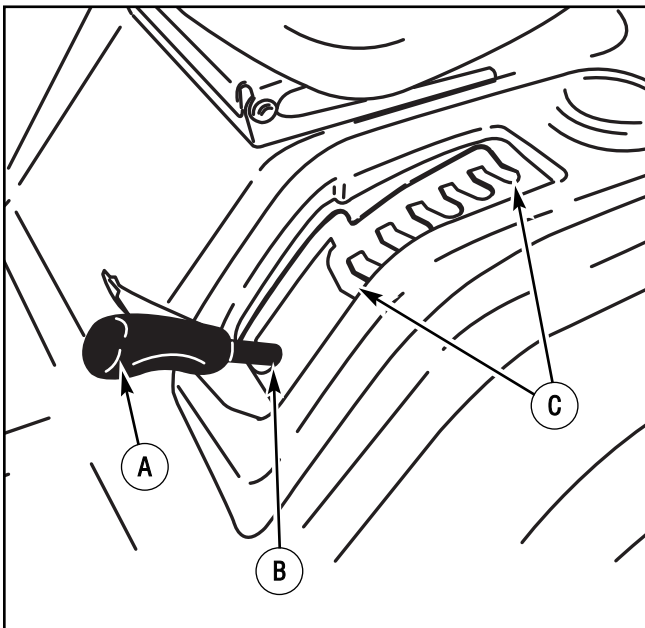

Figure 35: Lever adjustment
4. Move the **deck lift lever** to the LEVEL ADJUSTMENT position (Figure 35).